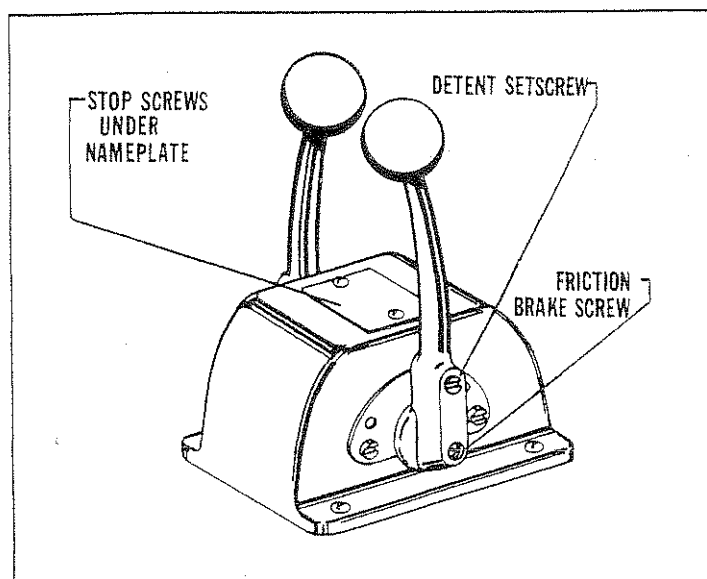

FIGURE 4
4. A friction brake setscrew is located at the hub center of the hand lever. (See Figure 4). Turn the setscrew